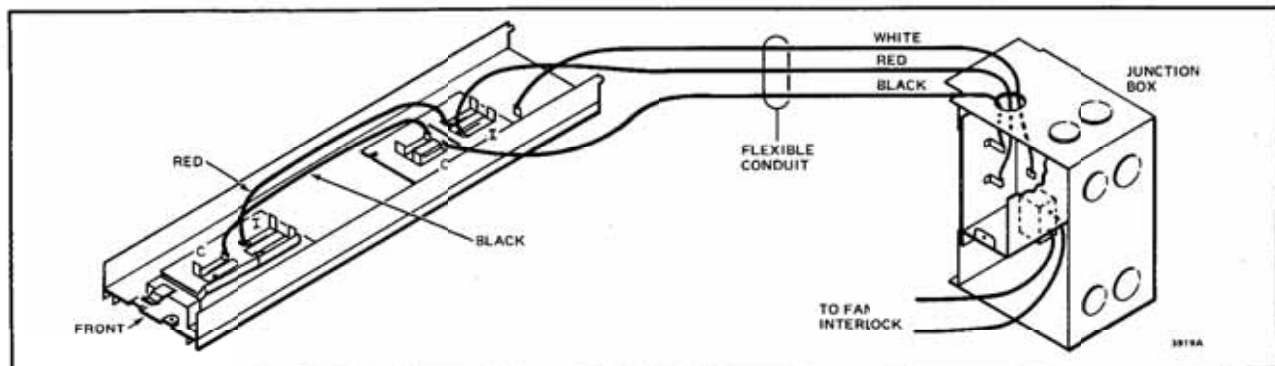

FIG. 28—CONNECTIONS FOR F50B REMOTE POWER SUPPLY.
6. Use the quick-connects on the new wires to make the electrical connections according to Fig. 28.